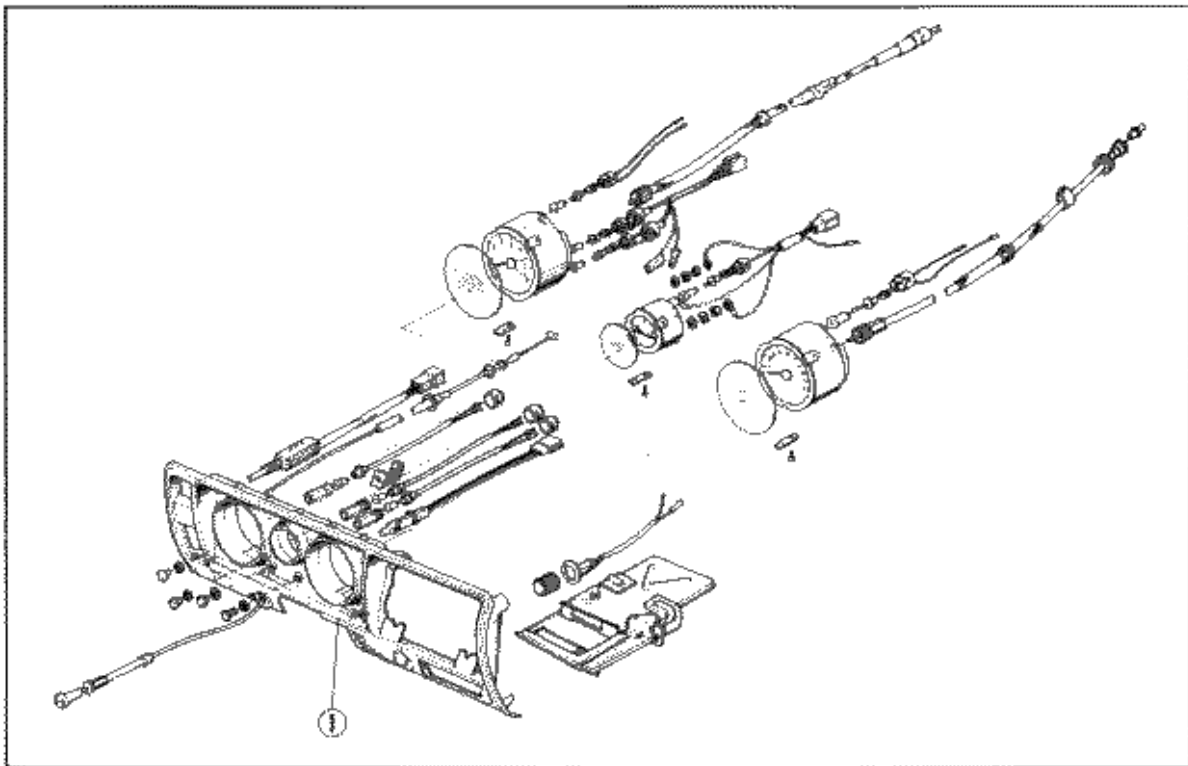

Fig. 15-8 ① Motor Panel
6. Remove respective meters (Fig. 15-8).